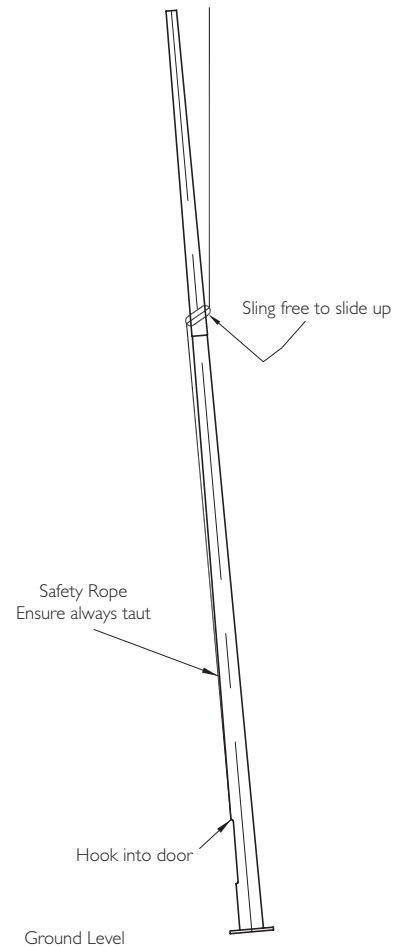

Figure 3.
- 3.6 Continue lifting the pole ensuring that the safety rope remains taut at all times and that the sling continues to rotate around. Refer Figure 3.